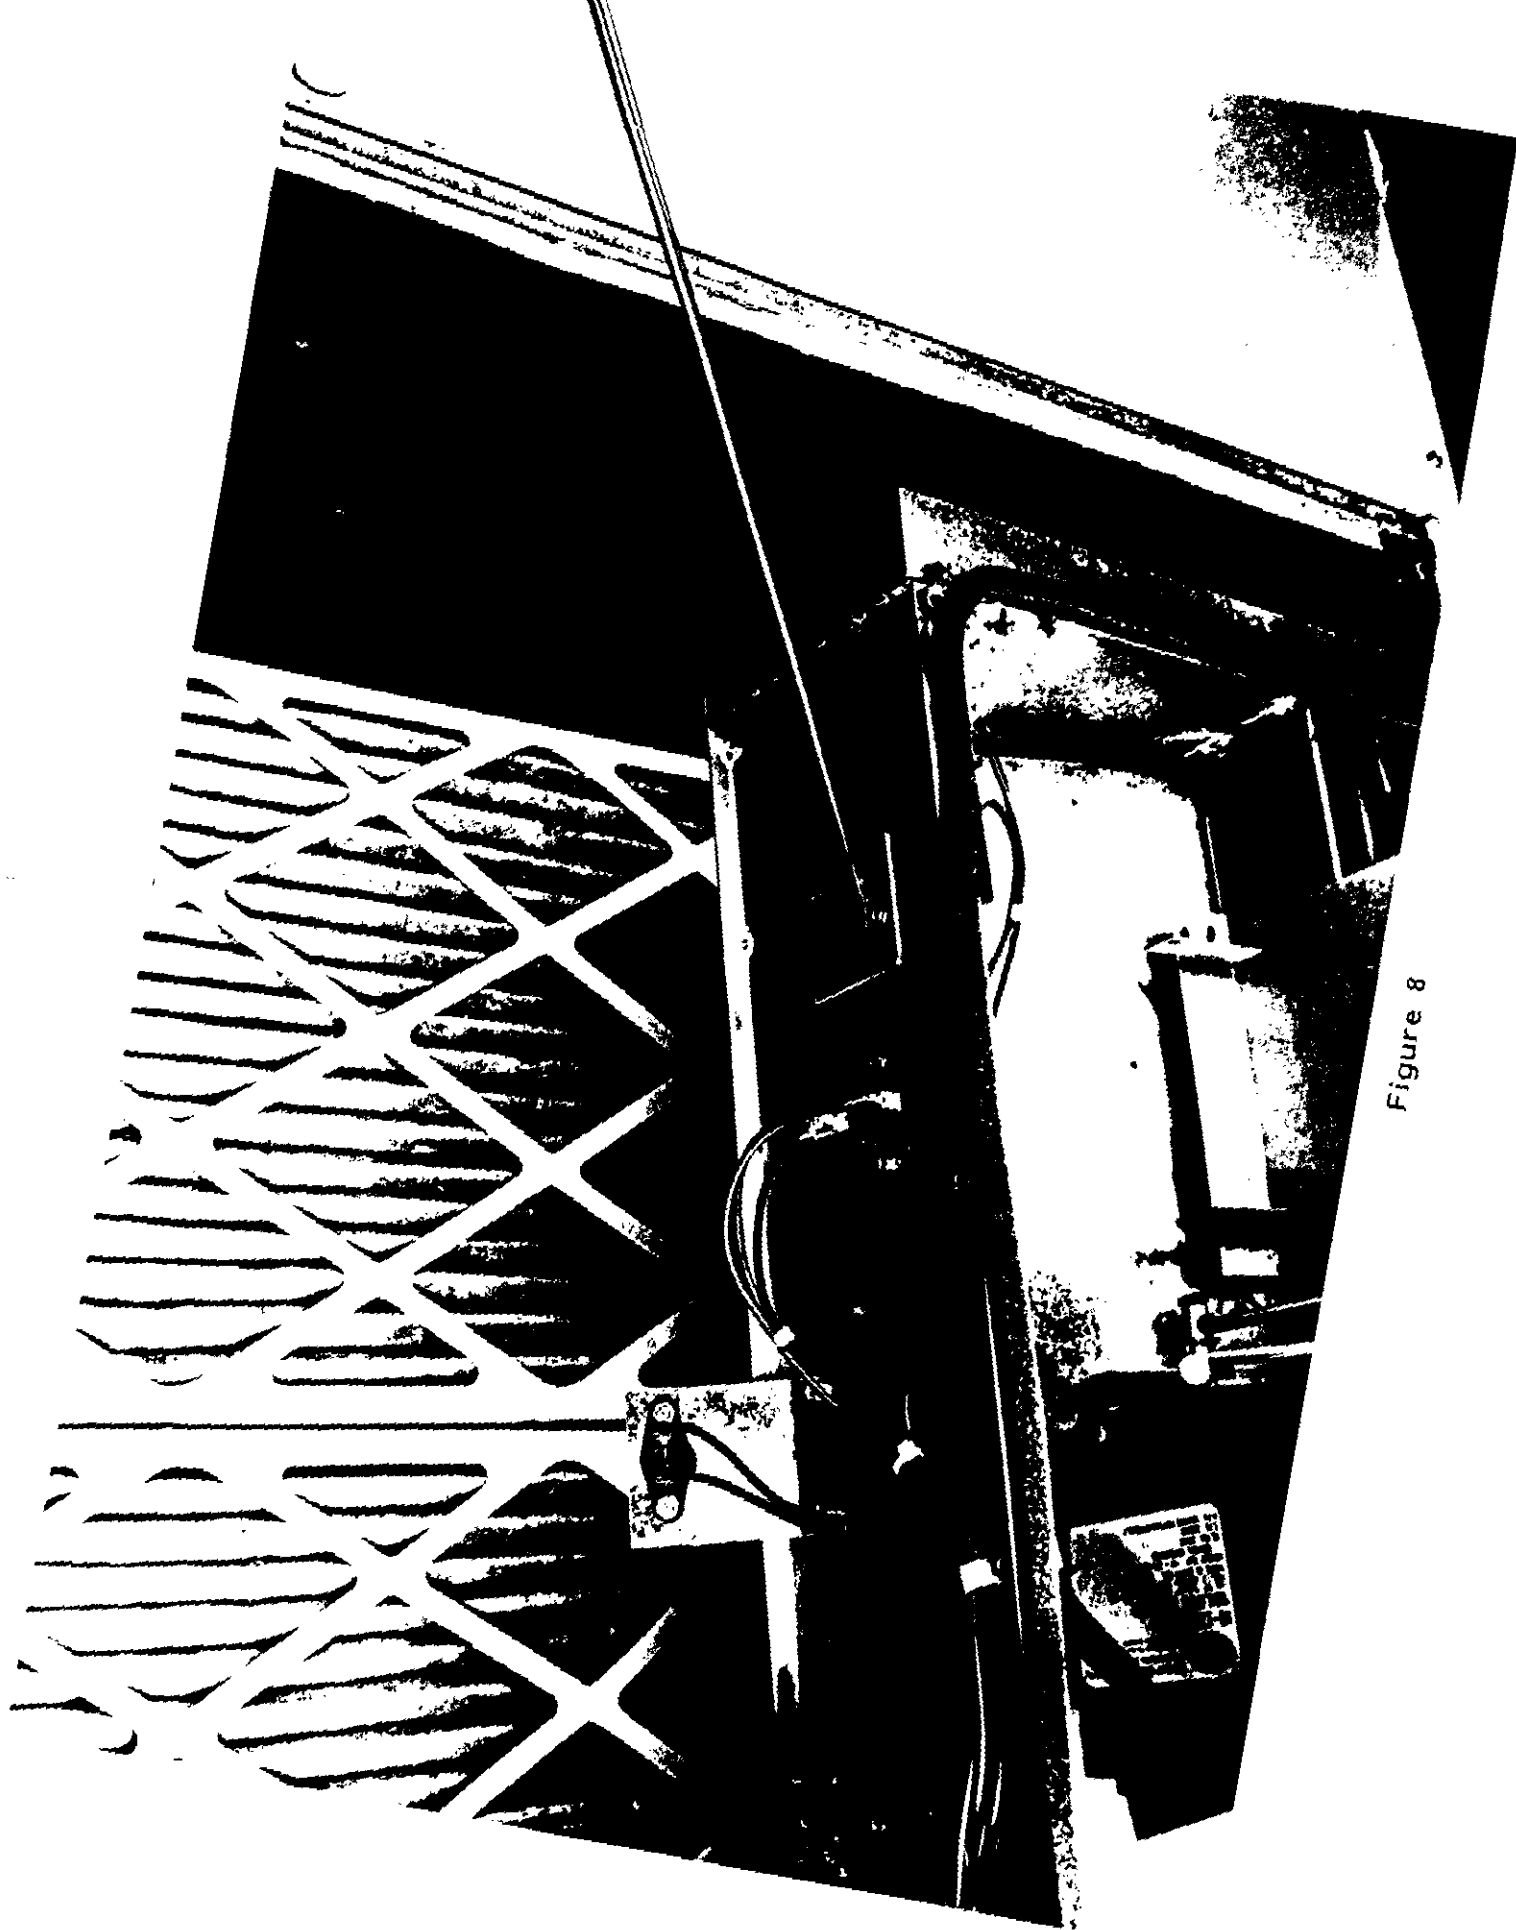

Figure 8
- g. Adjust the enthalpy control to position A,B,C,D (Figure 8) to achieve the maximum combination of temperature and humidity acceptable for the installation as per the chart in manufacturer's enclosed instructions. (The suggested setting is between A & B 70°DB @ 55 percent RH).